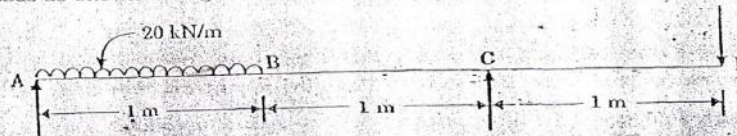

Figure 2-1
7. (a) Draw the shear force and bending moment diagrams for the beam carrying loads as shown in Figure 2-1, and locate the point of contraflexure. 15